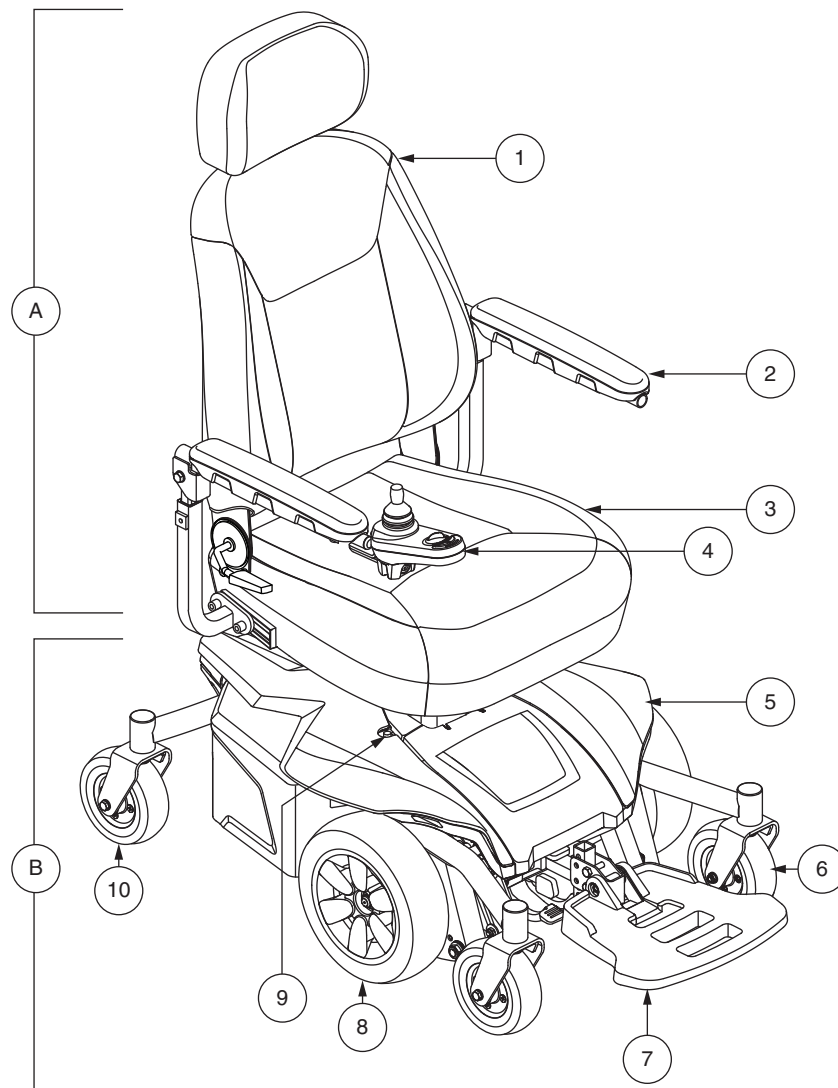

Figure 1. The Jazzy® Select 6 2.0 Power Chair
The Jazzy® Select 6 2.0 Power Chair has two main assemblies: the seat assembly (A) and the power base assembly (B). See figure 1. Typically, the seat assembly includes the armrests, seatback, and seat base. The power base assembly includes two motor/brake assemblies, two drive wheels, two batteries, four caster wheels, and wiring harnesses. See figures 1, 2, and 3.